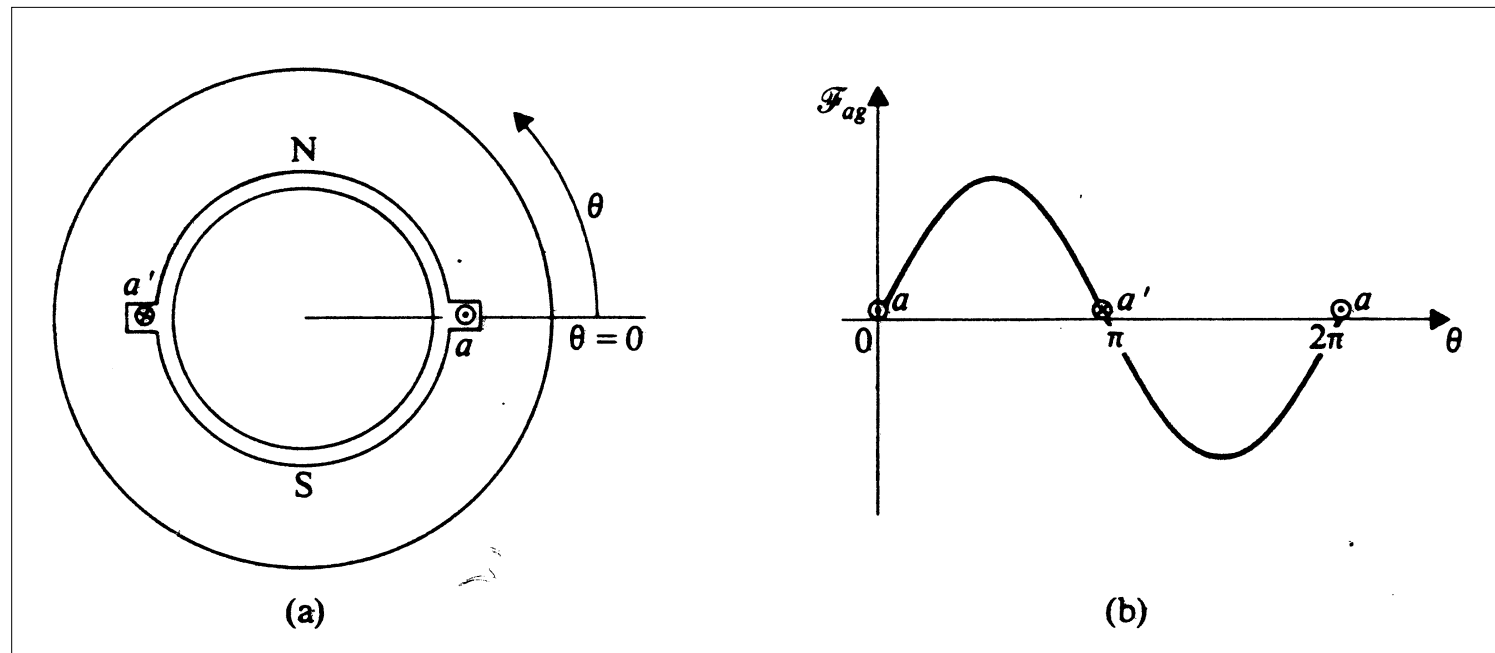

Figure 5.16: Two-pole stator MMF distribution
- These magnetic poles complete one mechanical rotation around the stator surface for each electrical cycle of the applied stator current as can be seen from Fig. 5.16.